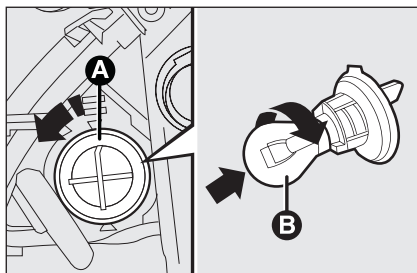

fig. 15
- ☐ turn the bulb holder clockwise **A**-fig. 15 and withdraw it;